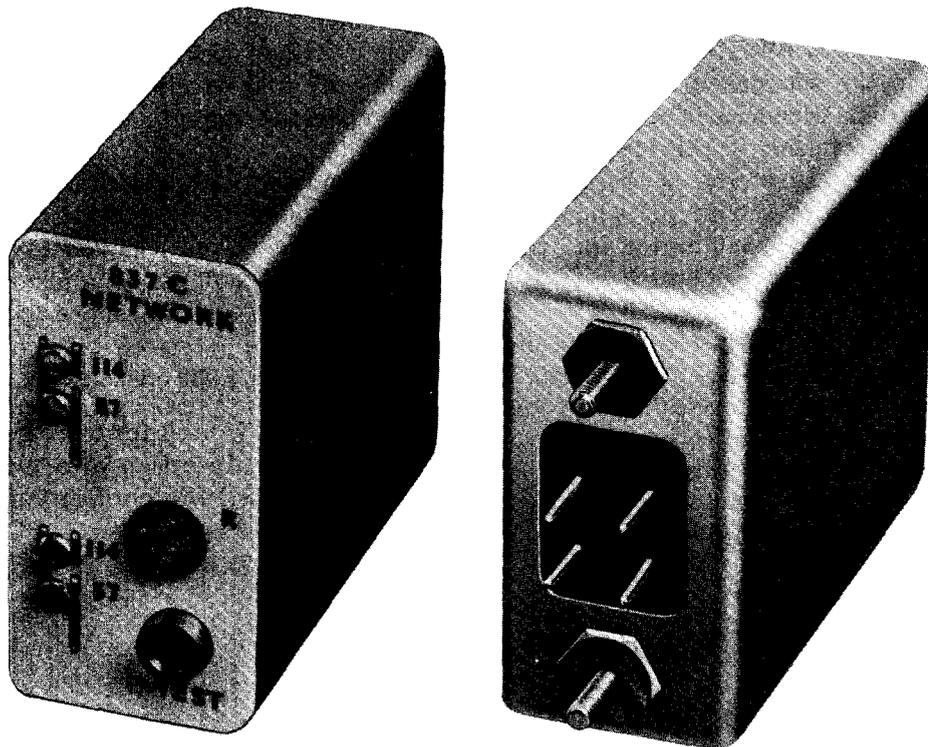

Fig. 1 — 837C Network
2.01 The 837C network is fitted into an aluminum can and measures 1.7 inches wide, 4.3 inches high, and 4.3 inches deep. The network is stud-mounted on a shelf near where the cable pairs are brought out to the panel wiring boards. Connections to the cable and line circuit are made at four terminals which extend from the rear of the network. The front of the network incorporates an adjustable resistor, a 239C jack, and four screw-type terminals. A photograph of the network is shown in Fig. 1.